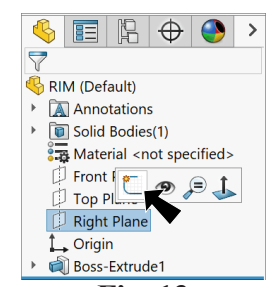

Fig. 13
Step 1. Click **Right**  in the Feature Manager and click **Sketch**  on the context toolbar, **Fig. 13**.
Step 3. Click **Circle**  (S) on the Sketch toolbar.